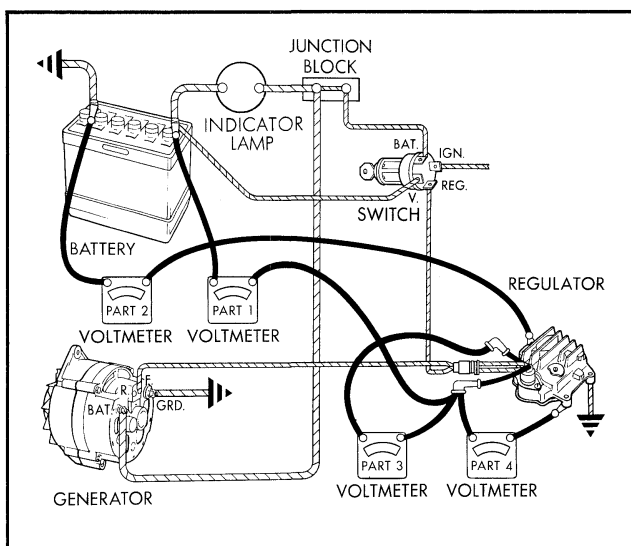

Fig. 11-48 Checking Circuit
7. Insert the special test adapter in the circuit at the regulator terminal. This adapter is available from various automobile type supply outlets. Test connections to the adapter are shown in Fig. 11-48.
9. Connect voltmeter positive lead to battery positive post and voltmeter negative lead to regulator positive terminal. See Part 1, Fig. 11-48. Record the voltage drop.
12. Connect voltmeter positive lead to regulator positive terminal and voltmeter negative lead to regulator "F" terminal. See Part 3, Fig. 11-48. Record the voltage.
14. With engine running, record voltage reading from the regulator positive terminal to ground. See Part 4, Fig. 11-48.